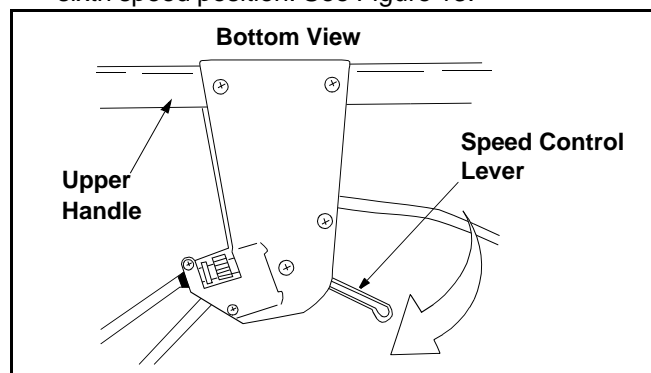

Figure 13
- Start engine and place speed control lever in the sixth speed position. See Figure 13.